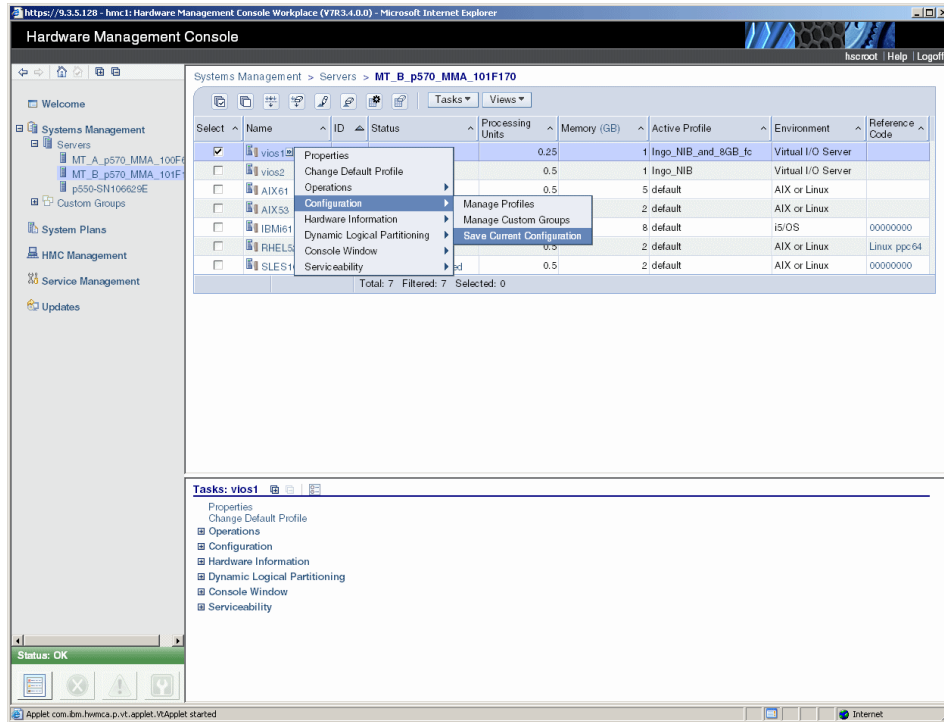

Figure 6-20 Save current configuration
- Remember to update the profiles of both partitions for the change to be reflected across restarts of the partitions. Alternatively, use the **Configuration** → **Save Current Configuration** option to save the changes to a new profile as shown in Figure 6-20.